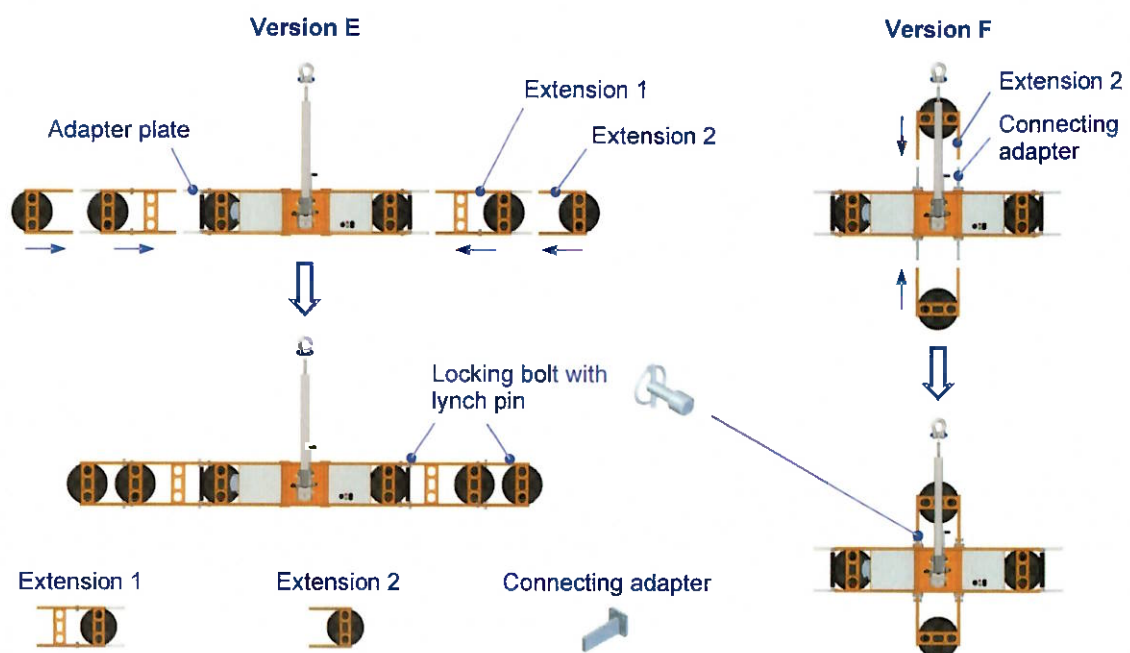

Fig. 6: Mounting of the extensions (Examples)
1. Remove the locking bolt with lynch pin (see fig. 6).